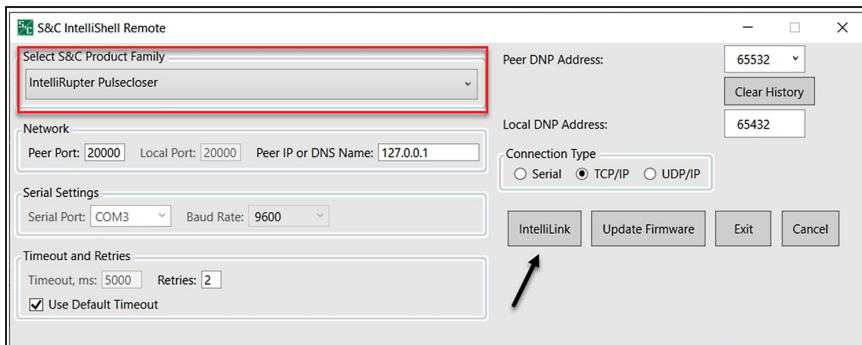

Figure 18. The IntelliShell Remote dialog box.
STEP 2. Select the appropriate product type and verify all other connection settings. Then, click on the **IntelliLink** button to launch the IntelliLink Setup Software. See Figure 18.